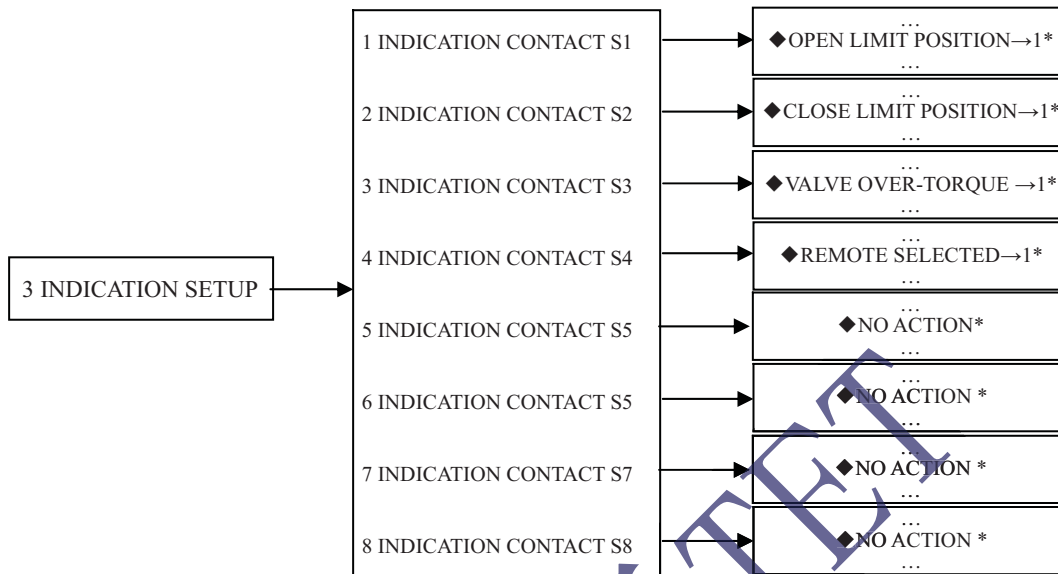

Fig.7
4.4 Indication setup(see Fig.7)